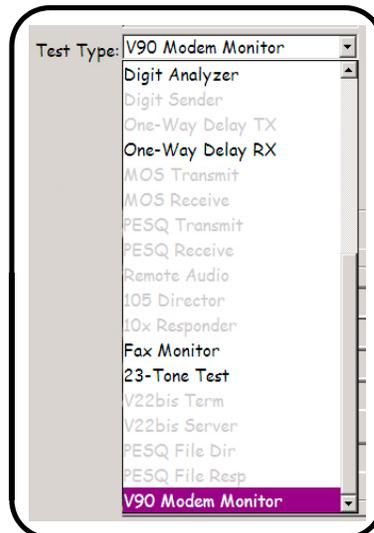

Figure 3 — Select *V90 Modem Monitor*
5. In the resulting screen, locate the "Test Type" window. Click on its associated drop-down arrow and select "V90 Modem Monitor", as shown in *Figure 3*, at right.